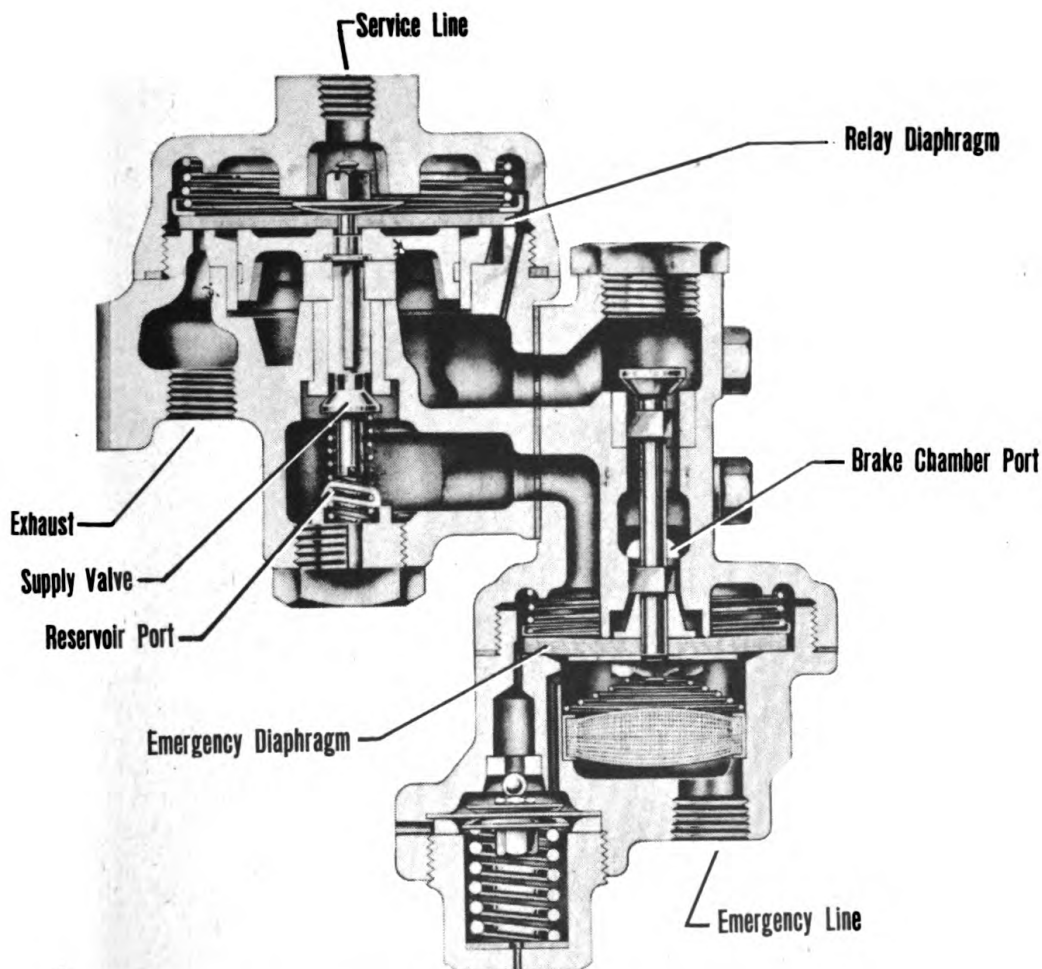

Figure 28—Cross Section of Relay Emergency Valve.
2. Relay-Emergency Valve. (See figure 28.)